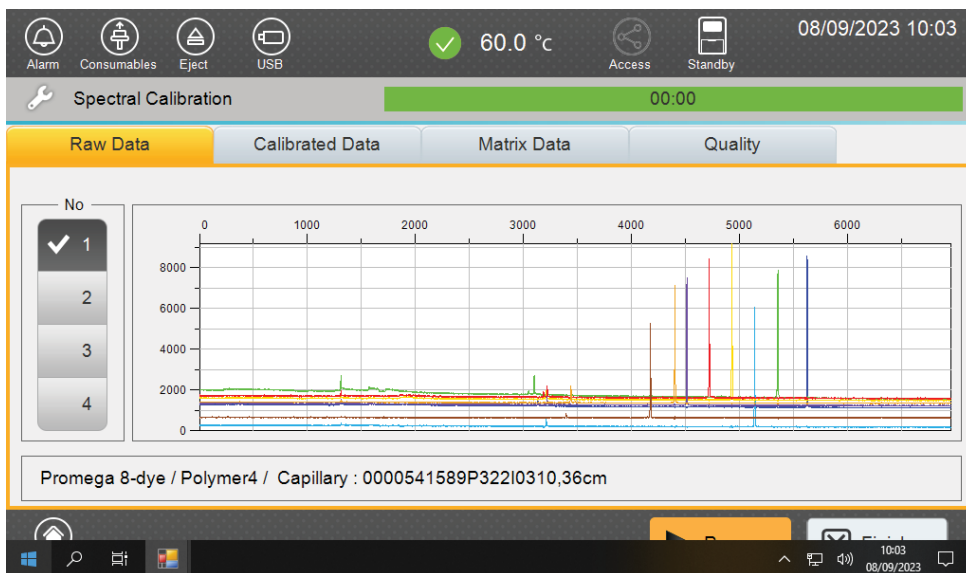

Figure 10. Spectral Calibration 'Raw Data' tab.
1. After the run, the 'Raw Data' tab (Figure 10) will be displayed. The minimum peak height for spectral calibration is 500 relative fluorescent units (RFU) and the maximum peak height is 32,767RFU.